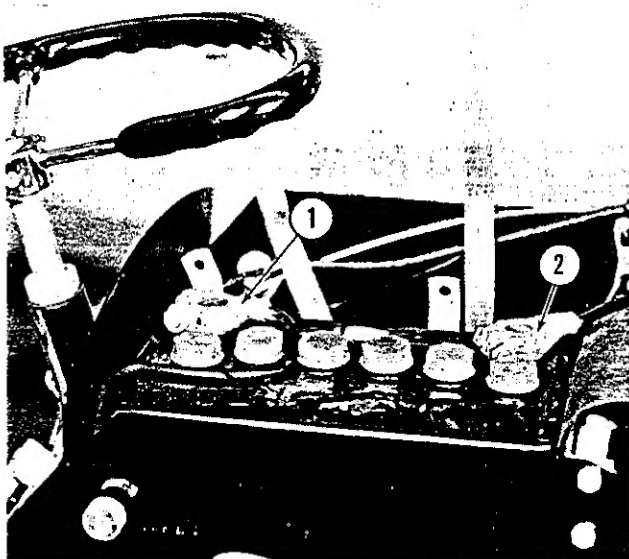

Fig. SG-8
Connect the ground cable securely to the negative terminal on the battery, (1) Fig. SG-8. Then connect the other battery cable to the positive terminal and secure with the attaching bolt.